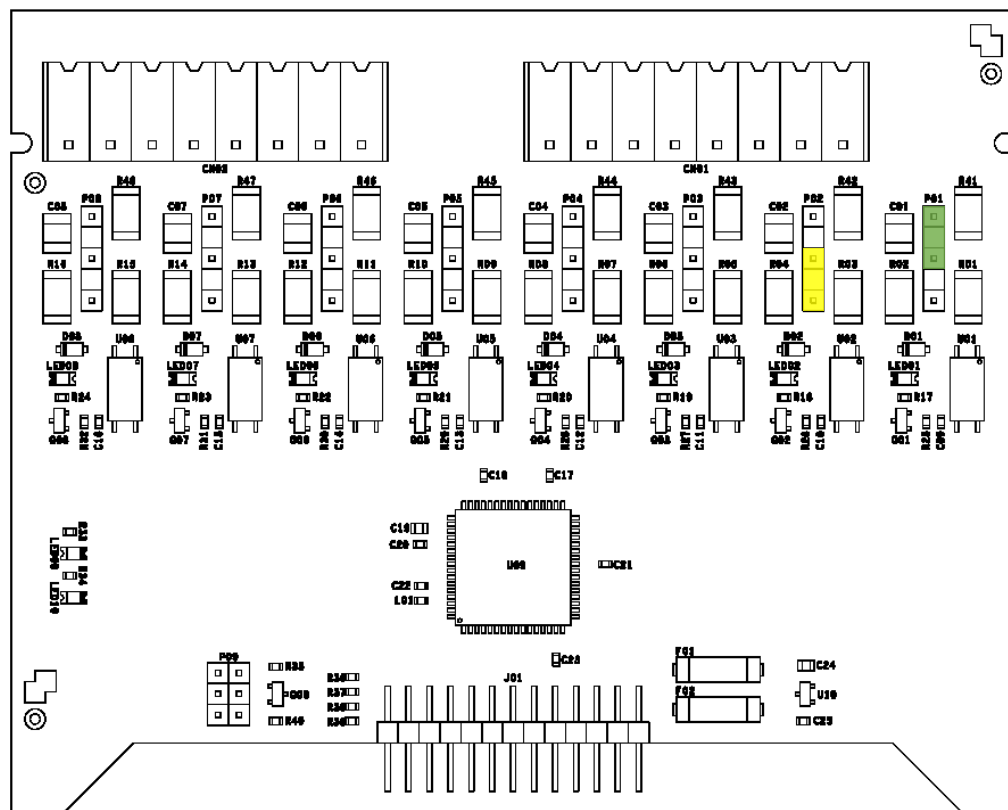

Figure 8. MU6E Digital Card
- **DC Mode:** The jumpers (one per channel) must be configured so that two pins—shown in the **GREEN** rectangle in Figure 8—are shorted together.
- **AC Mode:** The jumpers shown by the **YELLOW** rectangle in Figure 8 (one per channel) must be configured so that two pins are shorted together.